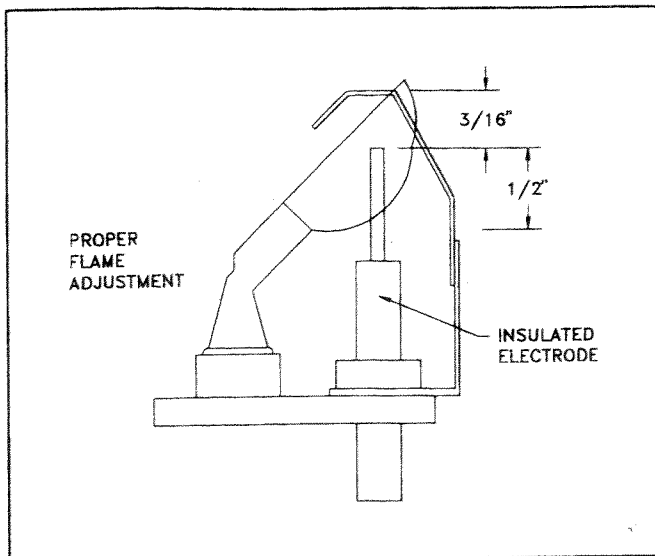

Figure 31. Pilot Flame Adjustment.
2. Pilot flame should cover 1/2 inch of tip of flame sensor as shown in Figure 31.